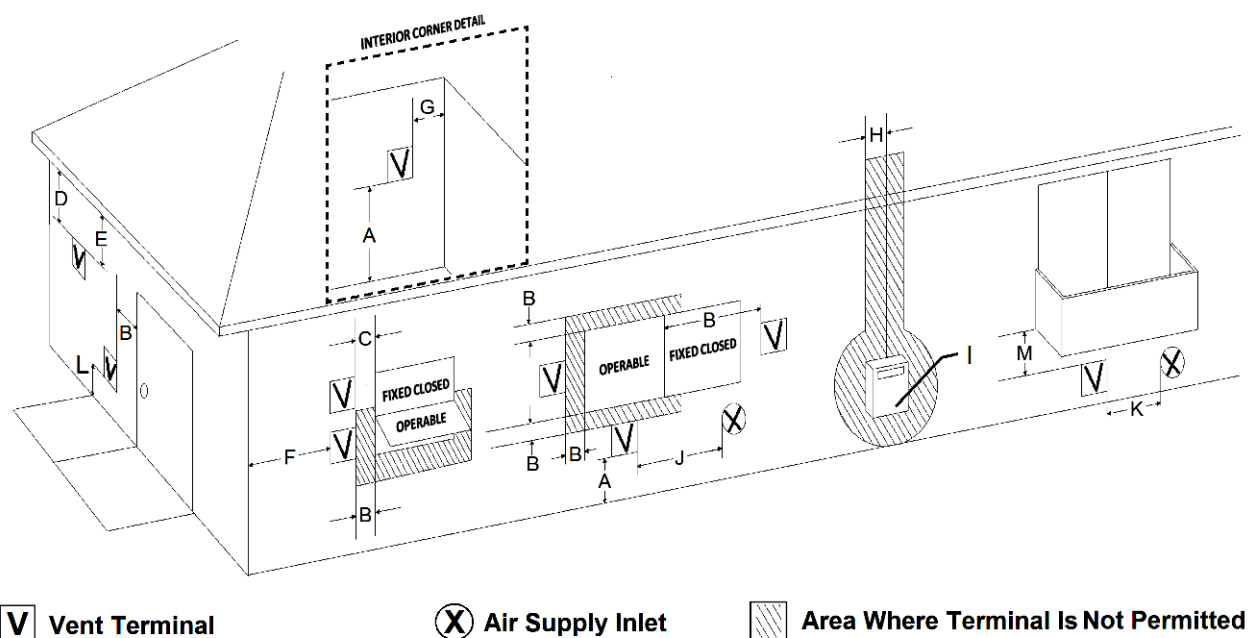

Figure 12 - Acceptable Direct Vent Terminal Vent Cap Locations
- 🔥 The termination must fall within the chart shown in Figure 12.